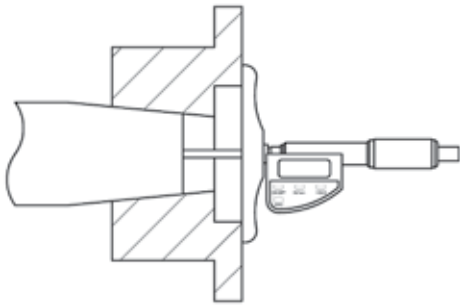

Figure 4 - Shaft end to hub face measurement example.
- 7.4. Use a depth micrometer to measure the distance from the shaft end to the hub face, as shown in Figure 4. Record the dimension.